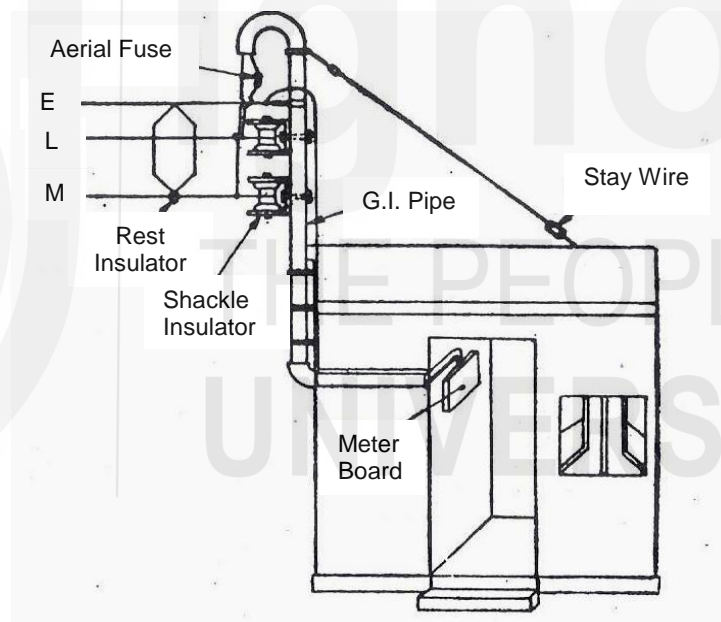

Figure 5.1 : Overhead Service Line for Single Storey Building
- (v) Fix the pipe clamp with I-hook and shackle insulators as shown in Figure 5.1.